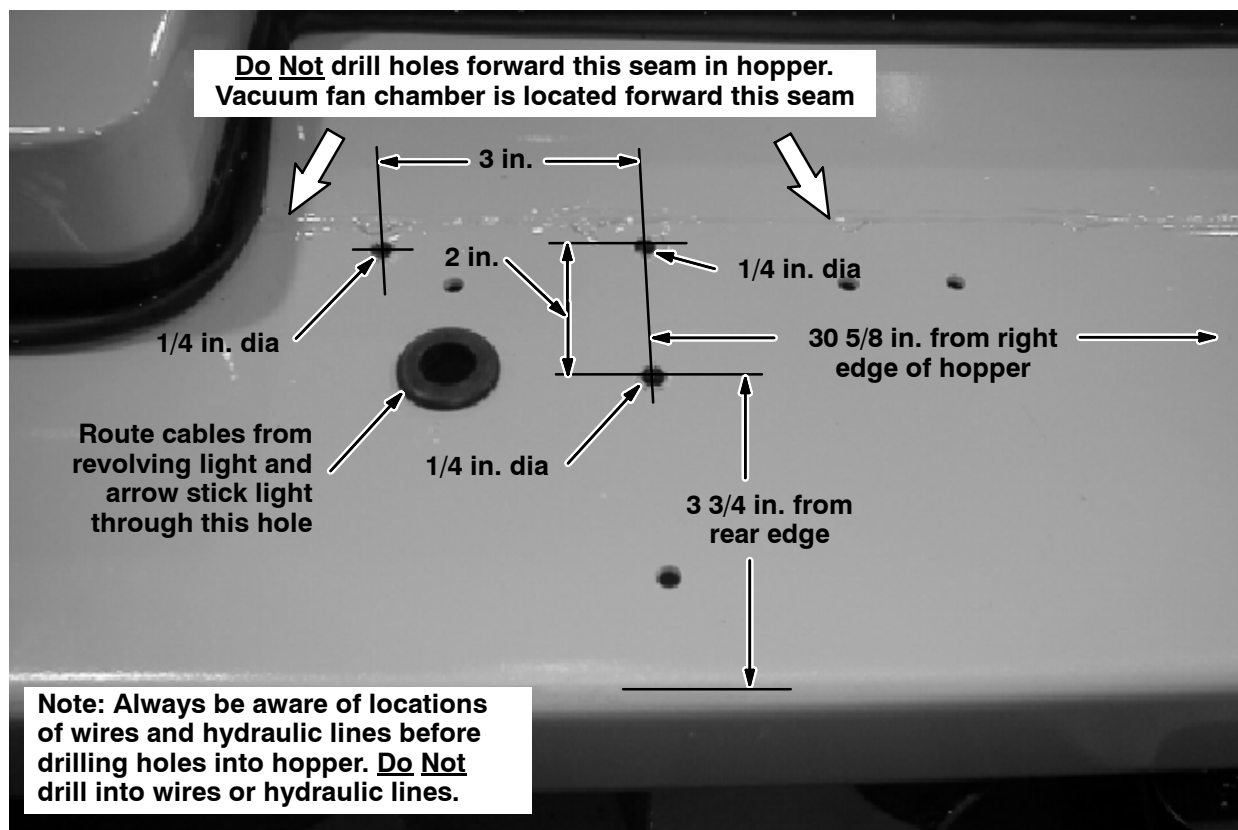
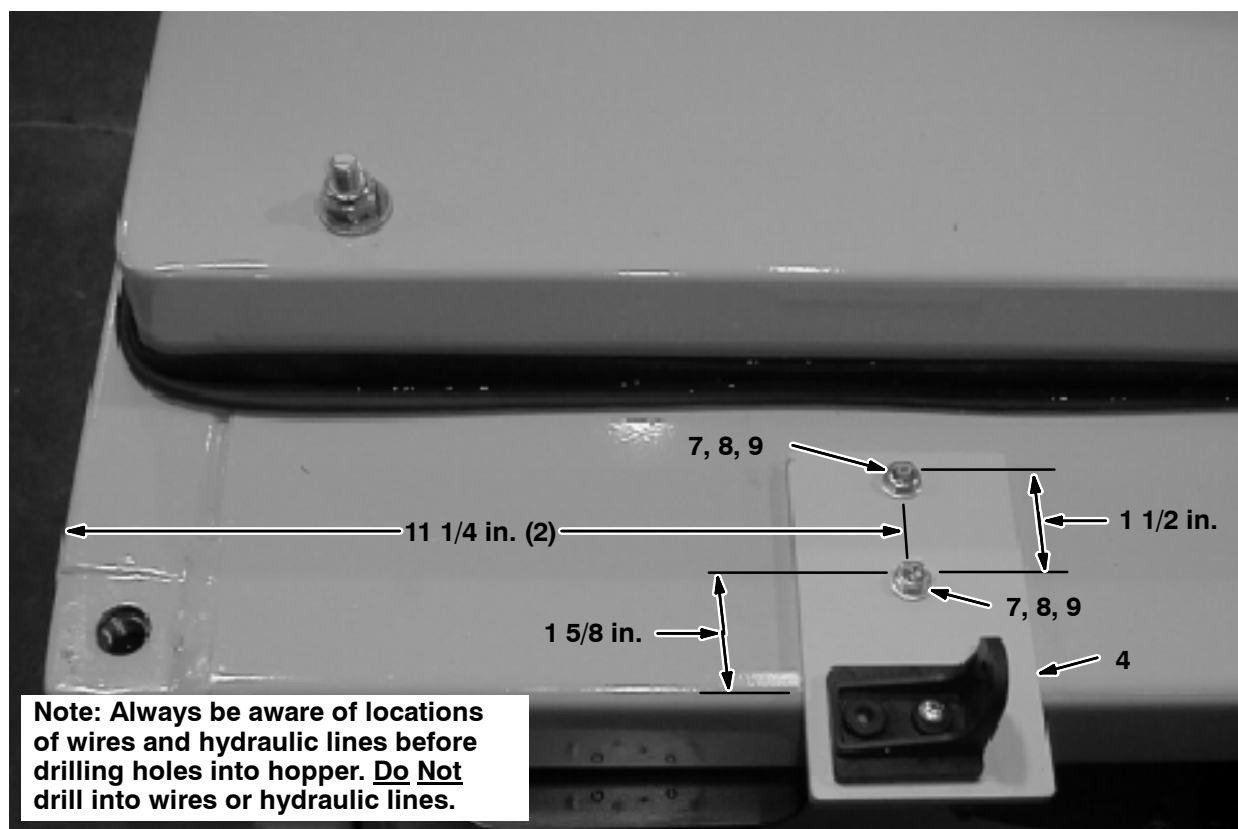
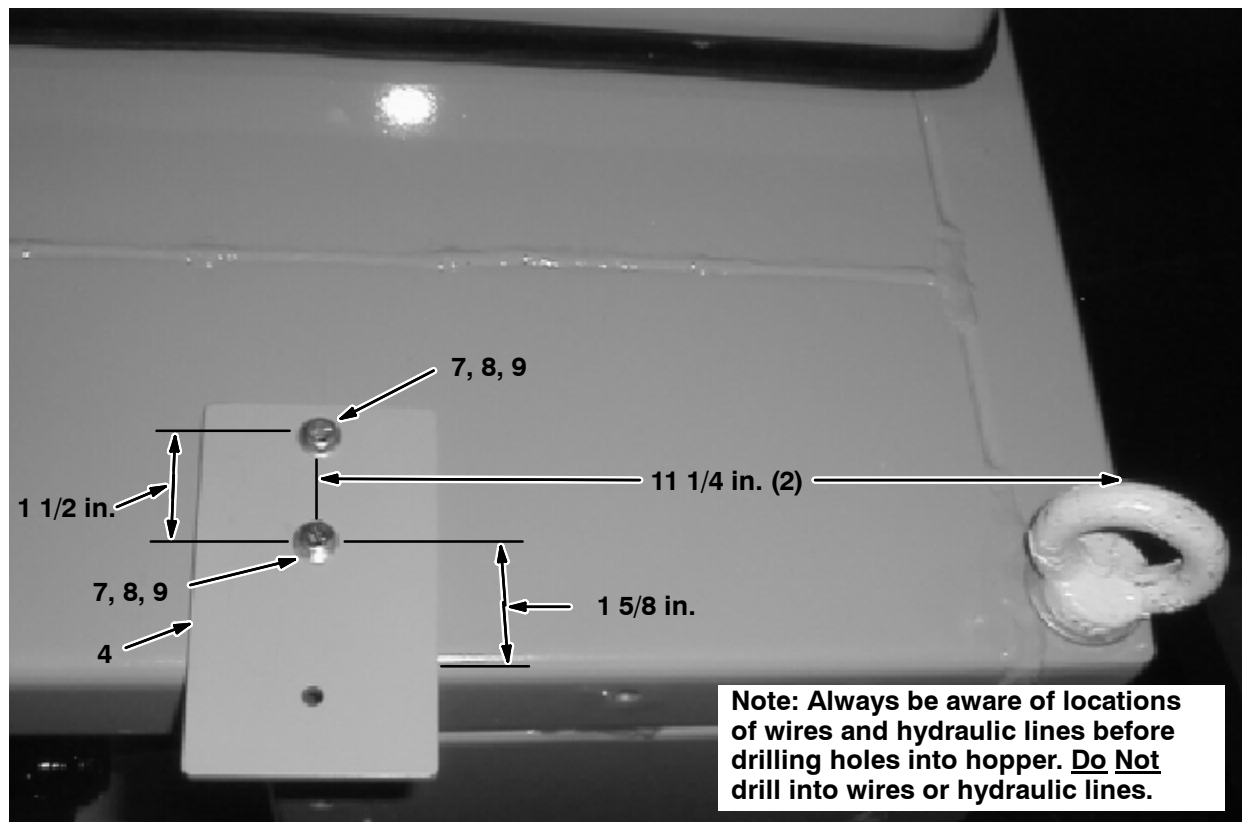

FIG. 15
FIG. 16
FIG. 17
17. Drill seven 1/4 in. holes into the top of the hopper. Refer to Fig. 15, Fig. 16, and Fig. 17.
24. Use two hex screws (7), two flat washers (8) and two hex nuts (9) to mount each mounting plate (4) to the hopper. Refer to Fig. 16 and Fig. 17.